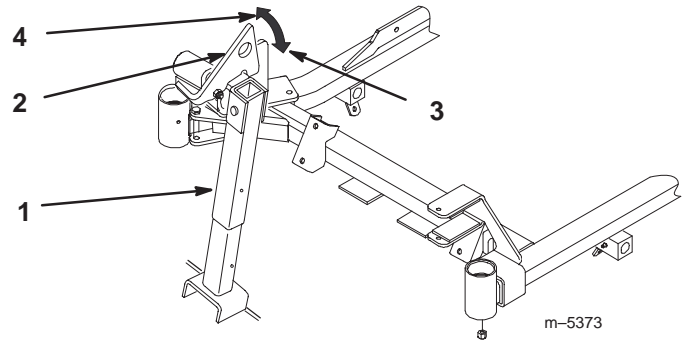

Figure 9
8. Drive onto stand. Stop when latch drops over tab into locked position (Fig. 9). Once onto stand, engage parking brake. Shut off engine.
1. Raise latch to unlocked position (Fig. 9).